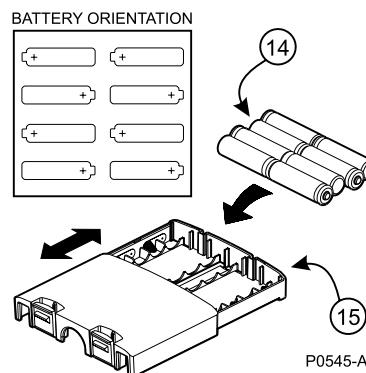

Figure 6 - Alkaline battery installation
- c) Place 8 "AA" alkaline batteries (14) into the base of the alkaline pack (15). Ensure they are aligned as shown in Fig 6 and as indicated inside the compartment.